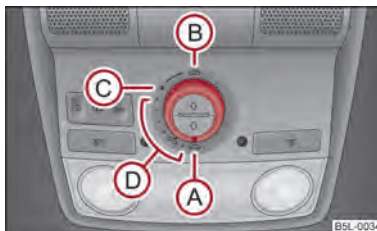

Fig. 21 Control dial for the panoramic sliding roof
The panoramic sliding roof with sun screen can only be operated with the control dial when the ignition is switched on → fig. 21. The control dial has several positions.
- Turn the switch to position **C** → fig. 21.
- Turn the switch to position **A** ⇒ fig. 21.